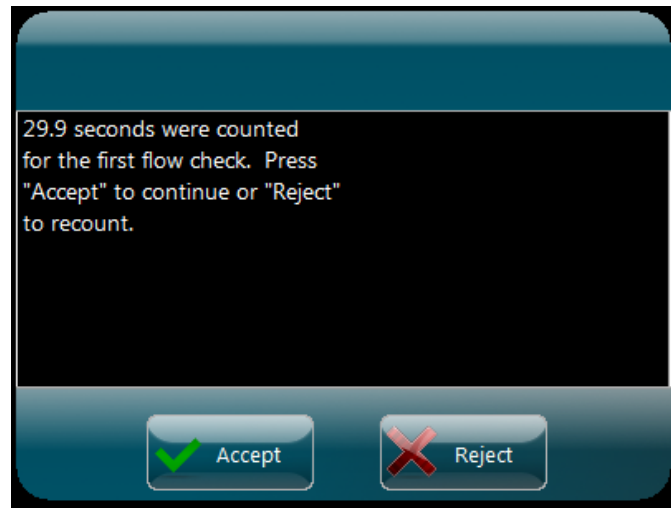

Figure 40 – Time Acceptance Verification
keypad, where the value can be manually entered. A pop-up will appear asking the operator if the entered time is to be accepted (figure 40). If 'Accept' is selected, the time will be entered on the display. If 'Reject' is selected, the time will be discarded. Using either method, after three (3) timings are entered, the average will be determined. The average drop count time will be included within the test data file and on the generated report.